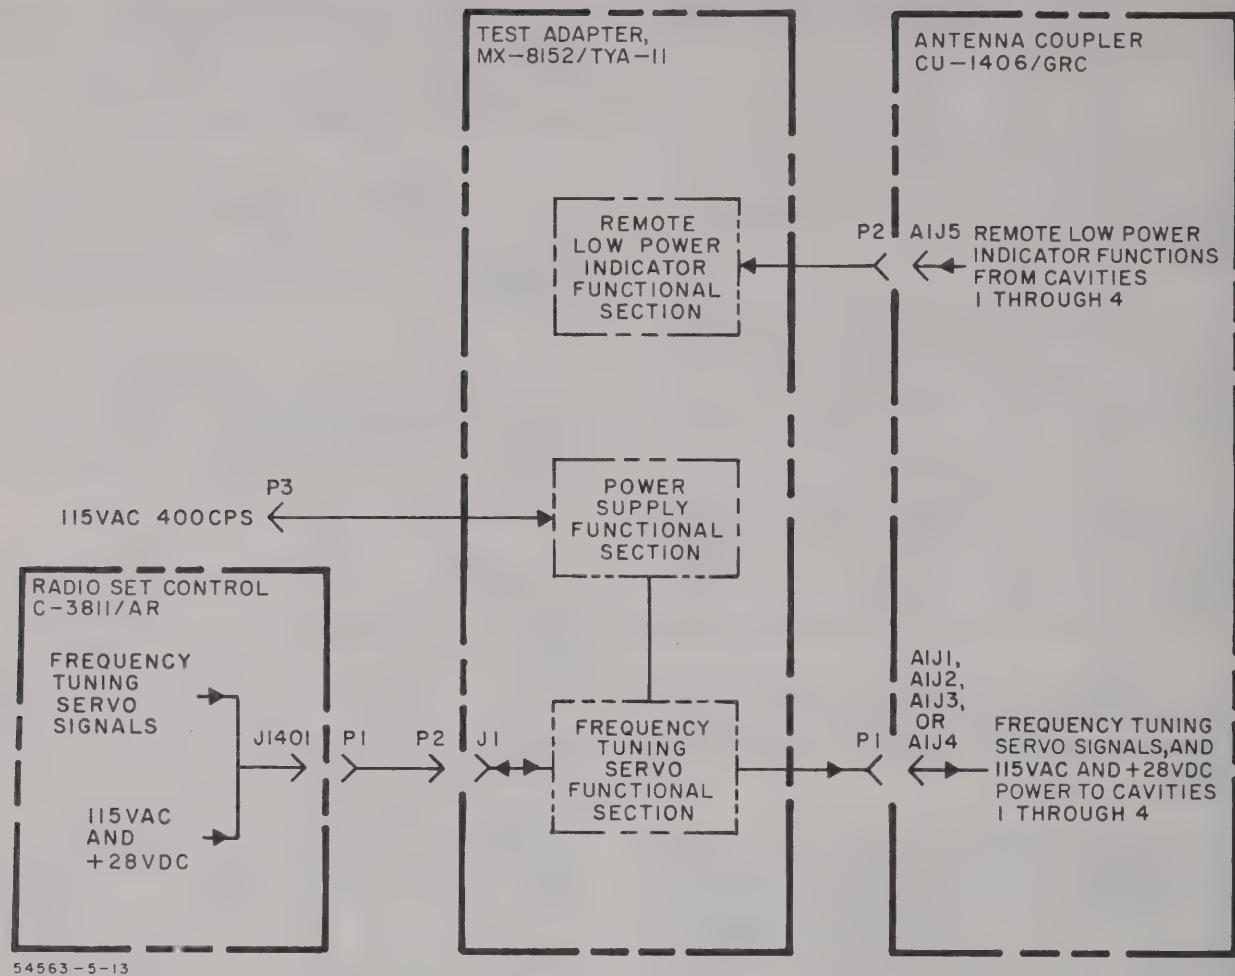

Figure 4-4. Test Adapter, MX-8152/TYA-11, Overall Block Diagram
d. TEST ADAPTER, MX-8152/TYA-11, OVERALL FUNCTIONAL DESCRIPTION. The overall troubleshooting data for Test Adapter, MX-8152/TYA-11, consists of a functional description. The functional description is based on major signal flow through the Test Adapter during the testing of Antenna Coupler, CU-1406/CU-1406/GRC, and describes the operation of each functional section. The Test Adapter (see Figure 4-4) consists of the power supply functional section, remote low power indicator functional section, and the frequency tuning servo functional section. The power supply functional section receives 115 vac from a two-phase, 400 cps power source and supplies ac and dc power to Antenna Coupler, CU-1406/GRC, under test and to Radio Set Control, C-3811/AR. The remote low power indicator functional section provides test jacks for testing the remote low power indicator circuits of Antenna Coupler, CU-1406/GRC. The frequency tuning servo functional section interconnects Radio Set Control, C-3811/AR, and Antenna Coupler, CU-1406/GRC, and provides test jacks for testing the frequency tuning servo functions.
(1) Power Supply Functional Section. The troubleshooting data for the power supply functional section consists of a functional description, followed by test data. The functional description is based on major signal flow through the functional section and describes the operation of each circuit group with respect to the overall function of the power supply functional section. The test data provide the information necessary to isolate the faulty circuit group or detail part of the power supply functional section.